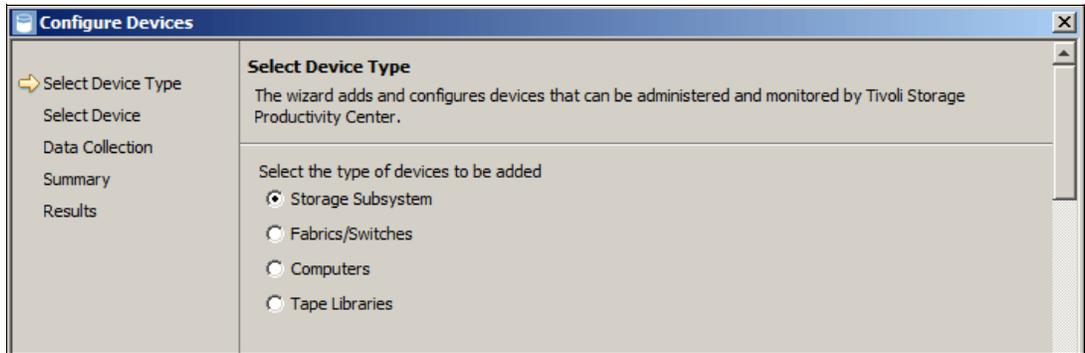

Figure 9-13 Select Device Type
2. Select the type of device to be added, in this case, **Storage Subsystem** (Figure 9-13 on page 376) and click **Next**.